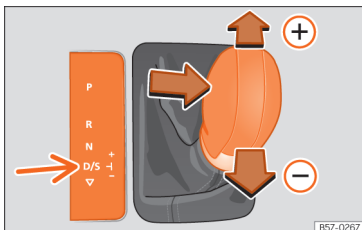

Fig. 90 Lever in the Tiptronic position
- Move the lever forwards (+) or backwards (-) to change up or down a gear »» **Fig. 90**.